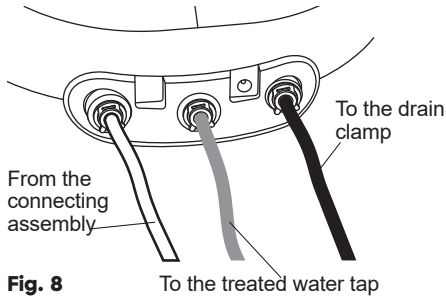

Fig. 8
- Connect the inlet tubes according to the diagram shown in Fig. 8.